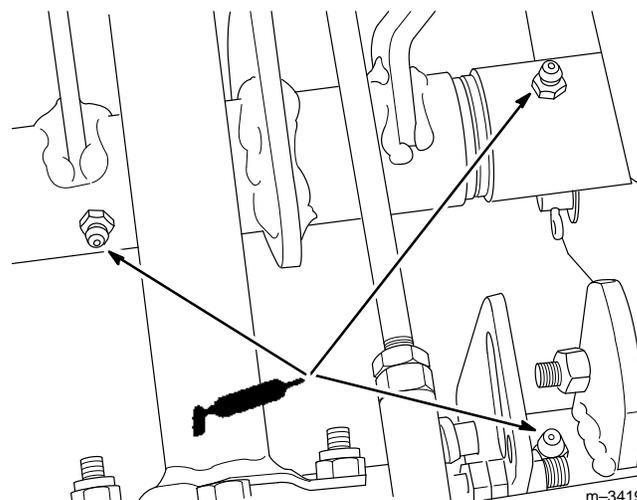

Figure 31
- Lubricate the three grease fittings (Fig. 31).